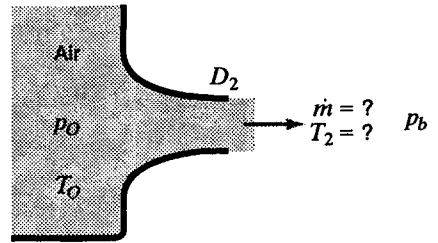

Figure P13.5
13.5 Air flows at 150°F from a large tank through a 1.5-in-diameter converging nozzle (Fig. P13.5). Within the tank the pressure is 85 psia. Calculate the flow rate for back pressures of 10, 30, 50, and 70 psia. Assume isentropic conditions. Plot \dot{m} as a function of p_b . Assume that the temperature within the tank is 150°F in all cases. Compute also the temperature at the nozzle outlet for each condition.